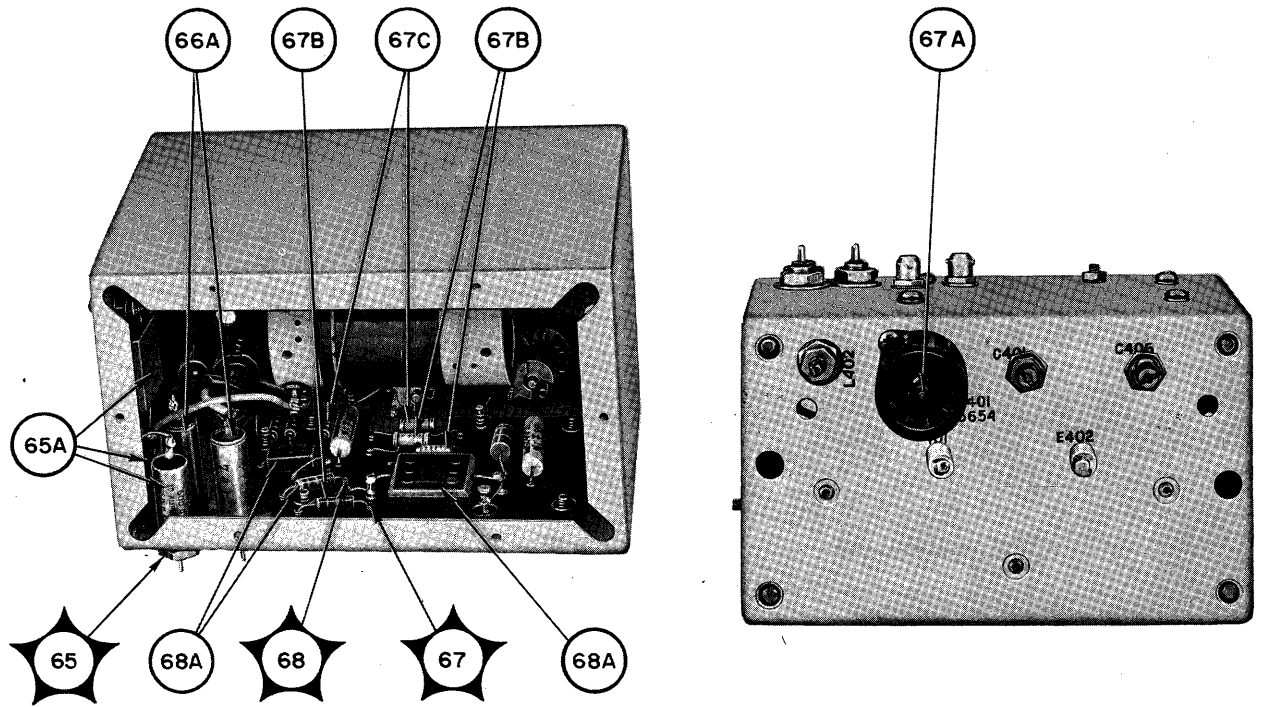

Figure 5-43. Interpolation Oscillator, Location of Test Points
- (1) Seating of tube V401 in its socket
- (2) Cable connections at J401 and J402
- (3) All soldered connections at chassis feed-through terminals.
f. INTERPOLATION OSCILLATOR TROUBLE-SHOOTING CHART.—Measure the dc supply voltages before checking for normal oscillator operation. The interpolation oscillator generates signal frequencies of 580 kc to 680 kc regardless of the BAND switch position; therefore, the setting of the TUNING  $\Delta F=100$  KC control is not important. Figure 5-43 shows the location of subassembly test points. Voltage and resistance measurements for V401 socket pins follow: